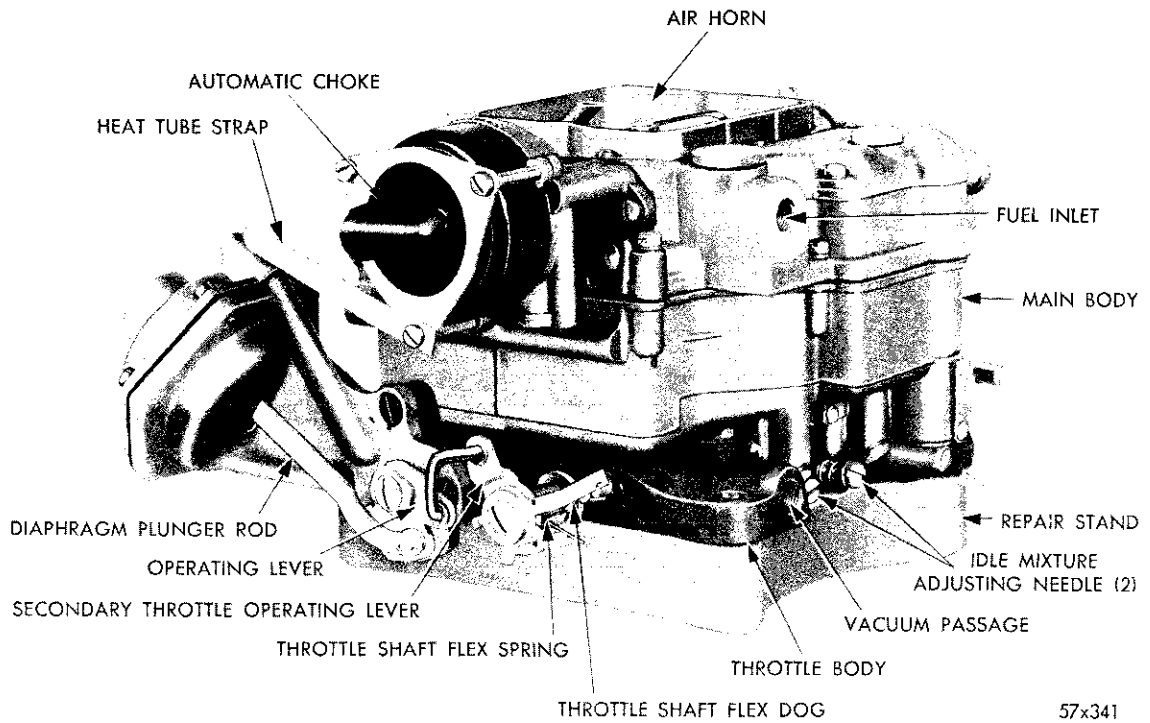

Fig. 30—Carburetor Assembly (WCFB 2589S or 2590S)
18. CARBURETOR DISASSEMBLY (FIGS. 30, 31, 32 and 33).